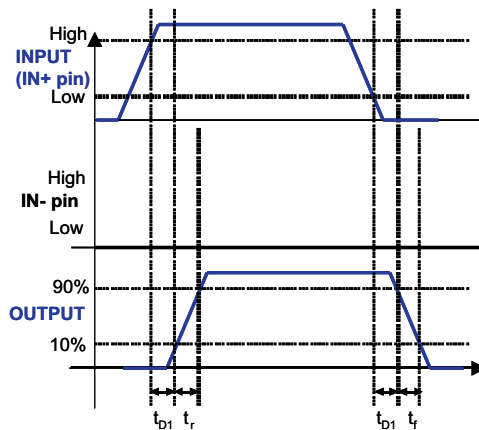
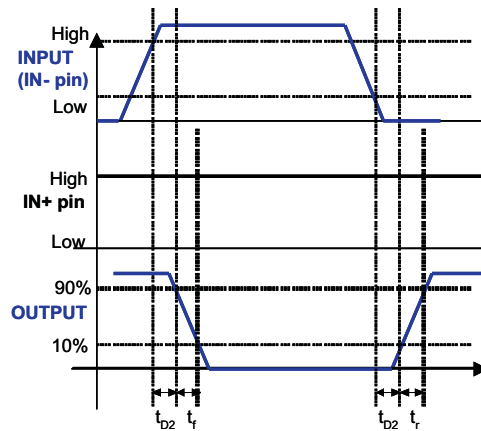
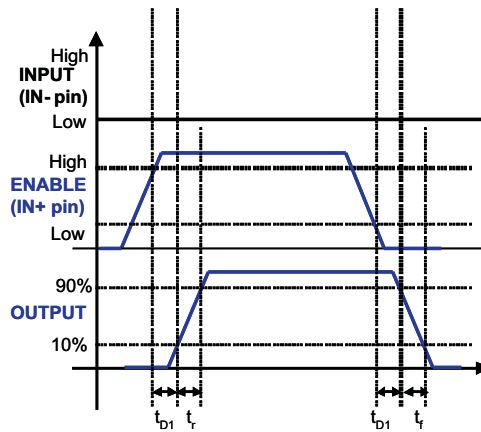

Figure 1. Non-Inverting Configuration (PWM Input to IN+ pin (IN- pin tied to GND), Output represents OUTH and OUTL pins tied together)
Figure 2. Inverting Configuration
Figure 3. Enable and Disable Function Using IN+ Pin
(3) See timing diagrams in Figure 1, Figure 2, Figure 3 and Figure 4.